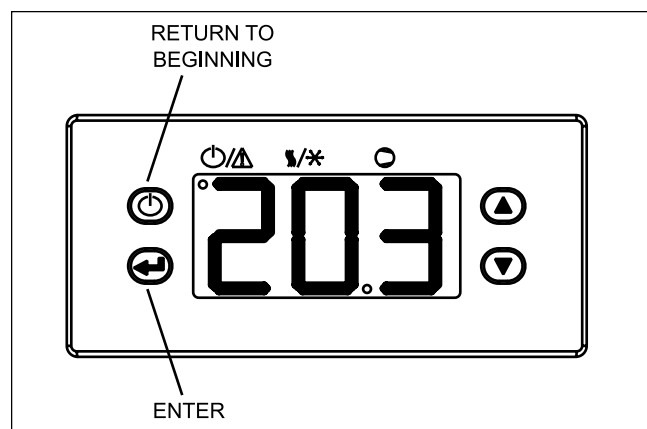

Figure 7. Pool Heater Controller.
The Pool Heater Temperature Control face contains an LCD screen and four (4) buttons (see Figure 7). The LCD screen will display the pool loop return temperature during normal operation. When the control is first powered up, it displays $\square\square\square$. It then displays the temperature at the pool loop sensor. After the temperature is displayed, the current settings (parameters) may be viewed. To scroll through the parameters, press the down arrow button to advance to the next parameter.